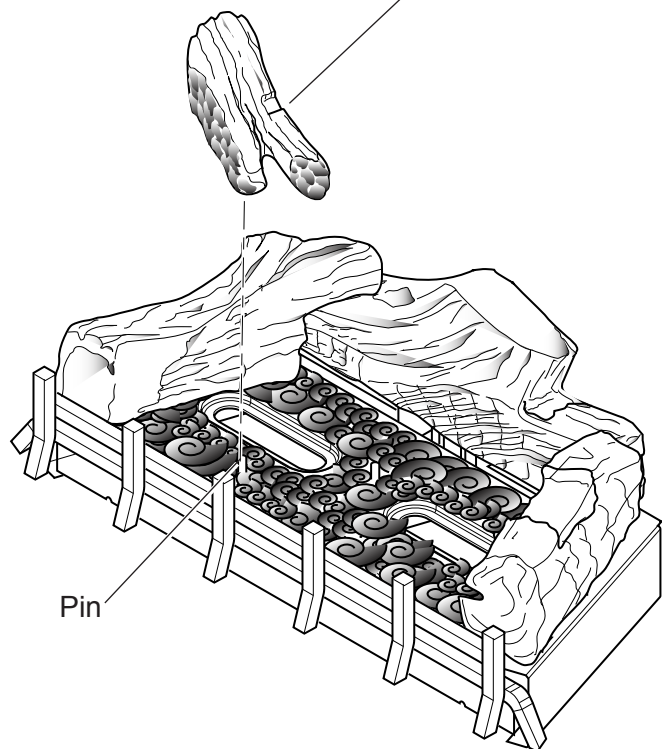

Figure 22 - Installing Left Center Log #4
7. Line up hole in bottom left center log (#4) with pin on burner. *See Figure 22.*